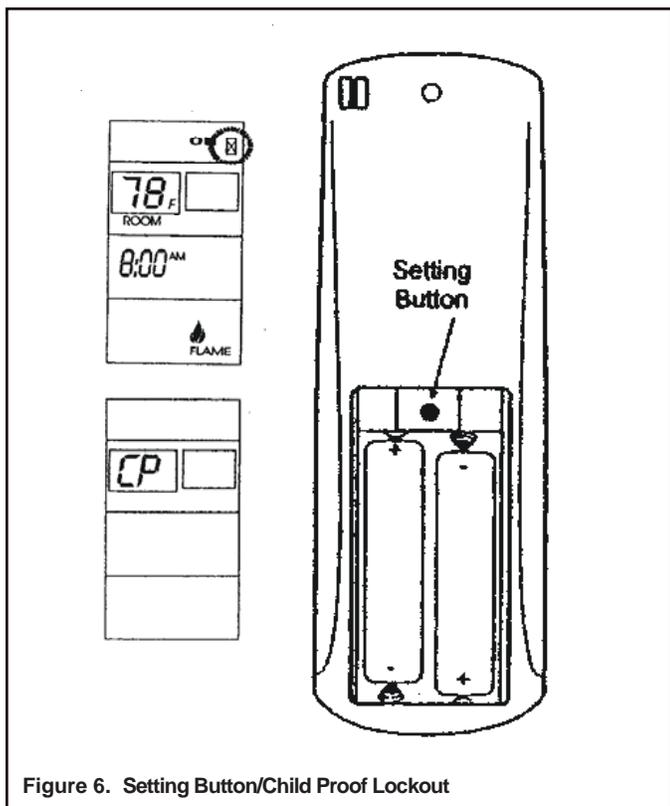

Figure 6. Setting Button/Child Proof Lockout
1. Remove the battery cover on the back of the transmitter and locate the "setting button" at the top center of battery compartment (see Figure 6).
1. Press and hold in the “setting button” for 5 seconds. The letters CP will display on the LCD screen (see Figure 6). This prevents the activation of fireplace. When any function button is pressed ON/OFF etc. the letter CP will display on the LCD screen.